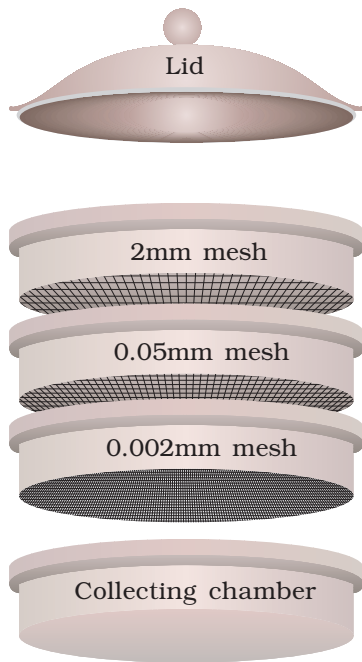

Fig. 15.2 Sieve set
- (iii) Select the 3 sieves of different mesh sizes (2mm, 0.05mm and 0.002mm). Arrange them in a collecting chamber as shown in Fig. 15.2.